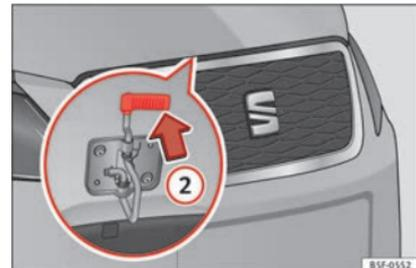

Fig. 9 Cam under the bonnet
- Lift up the bonnet. Press the release catch under the bonnet upwards »» Fig. 9 ②. The arrester hook under the bonnet is released. »»